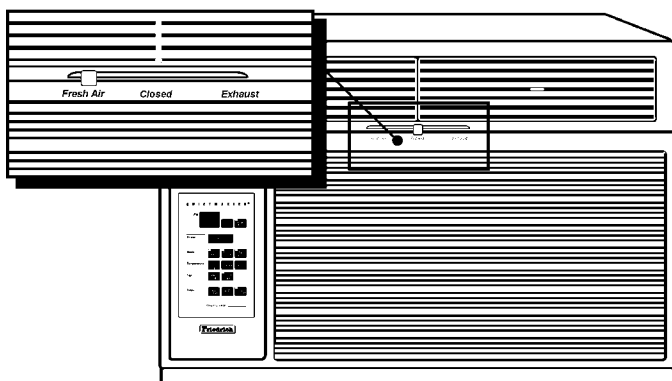

Figure 6
- 3 FAN ONLY - Press the FAN ONLY button if you want to run the fan only. You may want to use this feature in conjunction with the FRESH AIR/ EXHAUST if you want to bring outside air into the room, or exhaust stale air. (The FRESH AIR/ EXHAUST feature is located on the front of the air conditioner near the top. See page 7, Figure 6.)
Your air conditioner has the ability to bring fresh air into the room and exhaust stale air out of the room. The control lever is found on the upper part of the unit (see Figure 6).